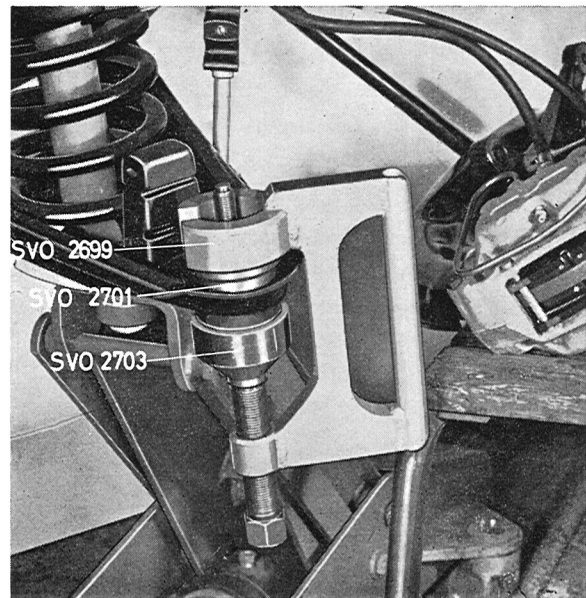

Fig. 6-32. Installing lower ball joint
3. Press the ball joints into the control arm with tools 2699+2701+2703, see Fig. 6-32. Should the ball joint not fit correctly, turn the tool 180° and tighten finally with the tool in this position. The ball joint must not be loose in the control arm.